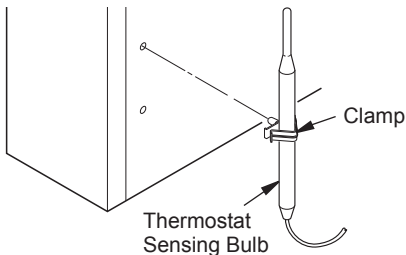

Figure 5 - Attaching Thermostat Sensing Bulb
1. Place clamp on thermostat sensing bulb as shown in Figure 5. Clamp is provided in hardware package.
2. Snap clamp into upper mounting hole as shown in Figure 5. Mounting hole is located on lower left edge on back of heater. Make sure the thermostat sensing bulb is pointing up.